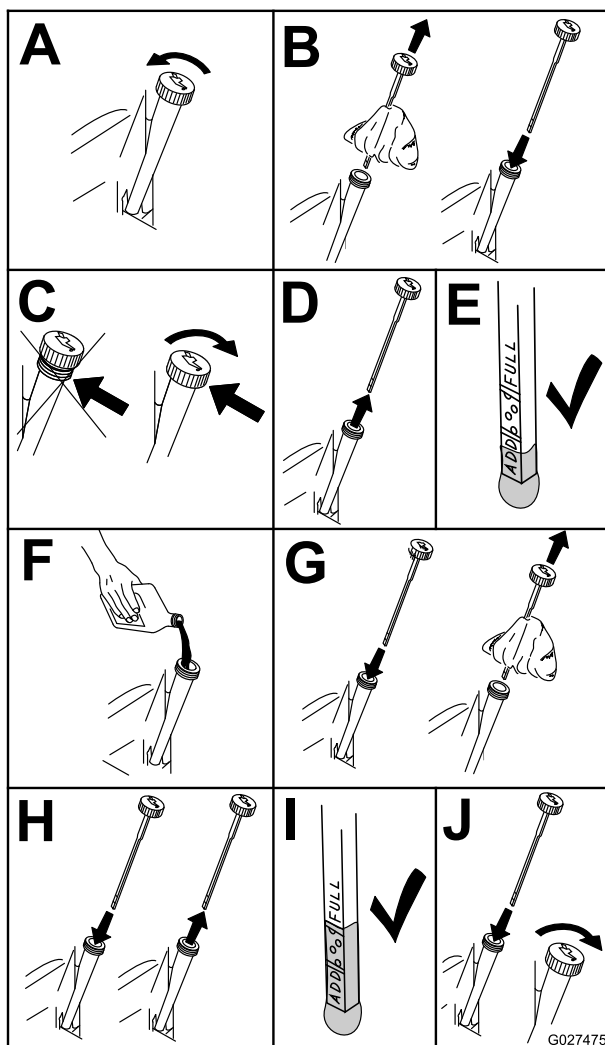

Figure 44
4. Check the engine-oil level (Figure 44).